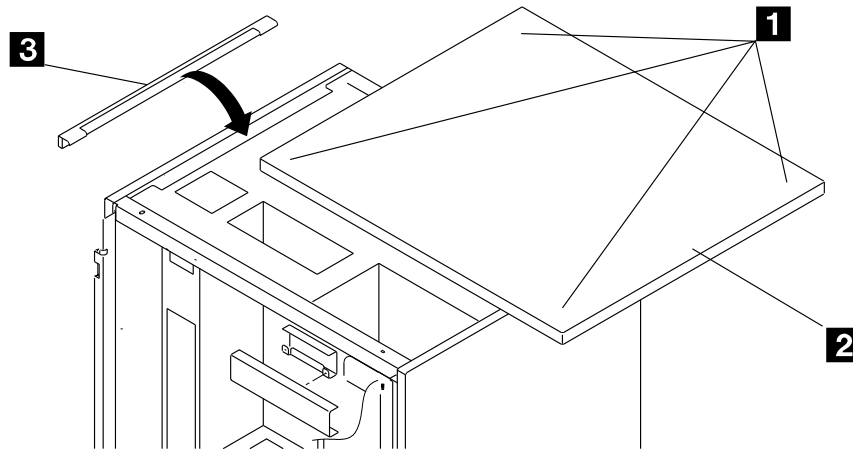

Figure 2-4. Bracket-Spacer Installation (PN 58G5428)
1. ____ Remove the 4 screws **1** and the 3745-17A top cover **2** (see Figure 2-4).